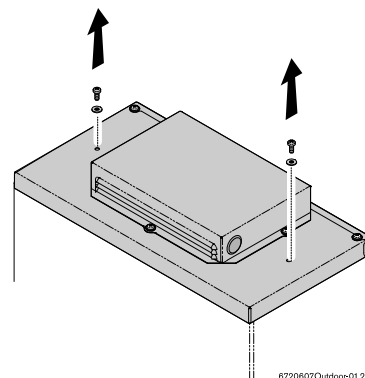

Fig. 7
- ▶ Remove the two top screws securing the vent cap to the top of the heater, being careful the washers on the screws are not lost, see Fig. 7.